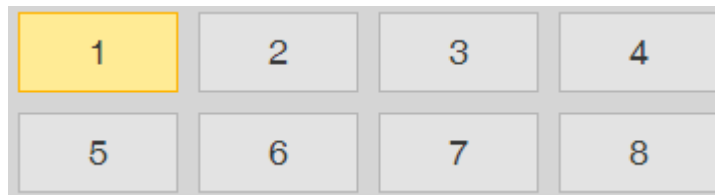

Figure 5-3
**Step 2** Select the lens number under the video image successively (as shown in Figure 5-3), then you can add calibration point for video image of corresponding lens.